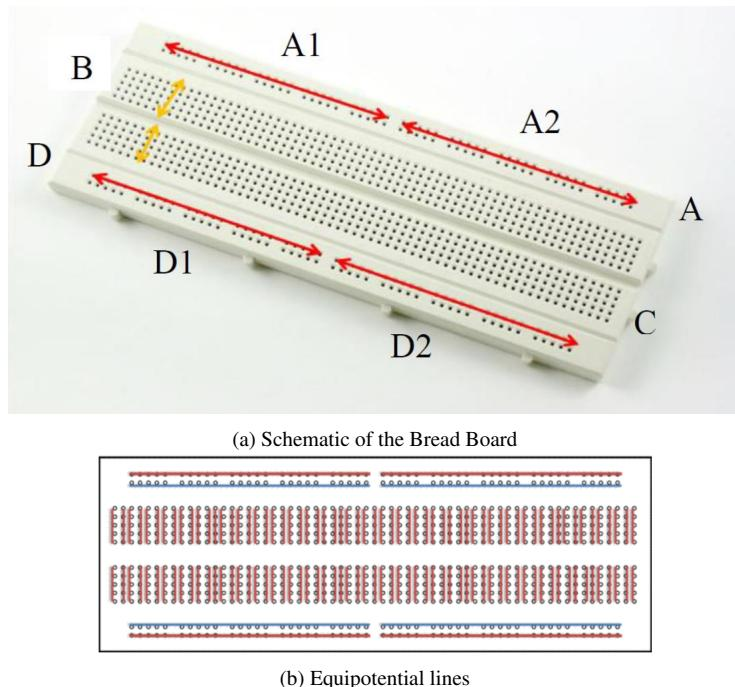

Figure 1.1: Breadboard familiarisation
- Each portion of A and D is further subdivided into two regions as A1 and A2 shown in Fig. 1.1.